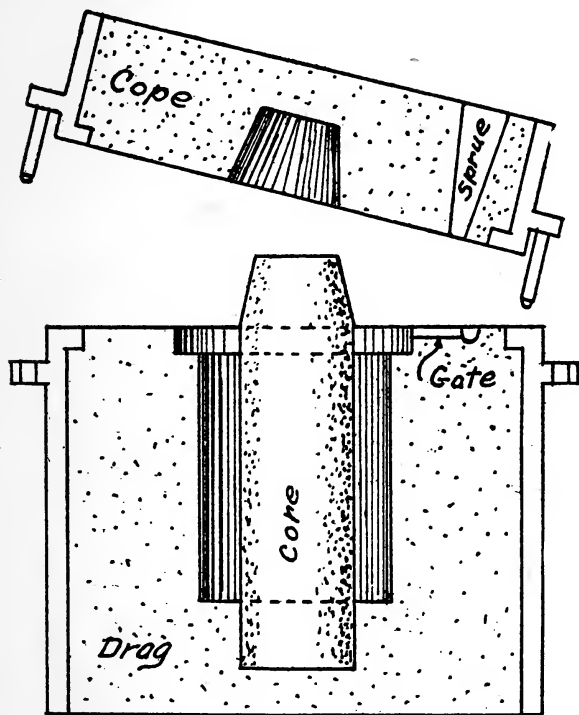

Fig. 14. Section View of Mould for Bushing, Ready to Close
2. Sprue: opening through the cope left by sprue pin. (Fig. 14.)
3. Gate: channel connecting sprue and mould. (Fig. 14.)
Vertical cores are those which stand on end in the mould. (Fig. 14.) Their upper ends must be cone shaped and the cope core print is similarly cone shaped, so that, when the cope is lowered, the upper end of the core will be sure to enter the tapered hole formed by the *cope* print. This also serves to bring the core to a vertical position in case it had been leaning.
Fig. 14 is a cross section view, through the center of the mould for the bushing. The flask can be seen filled with sand in which the pattern has been imbedded and withdrawn, leaving its impression in the sand. The core is seen standing on end, its lower end fitting snugly into the impression left by the drag print, and its upper end tapered to insure its entering the cope print.